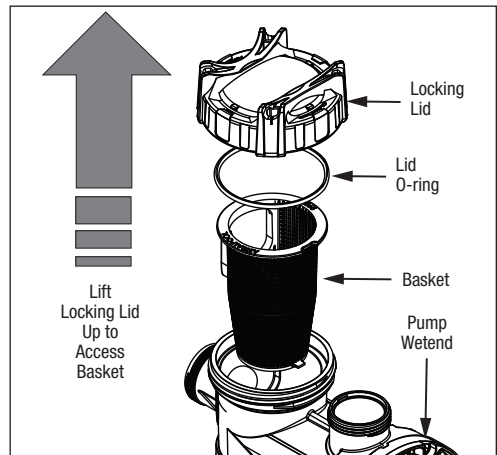

Figure 11. Remove Pump Lid
4. Following the markings on the locking ring, turn the ring counter-clockwise until the 'START' markings align with the ports. See *Figures 11*.